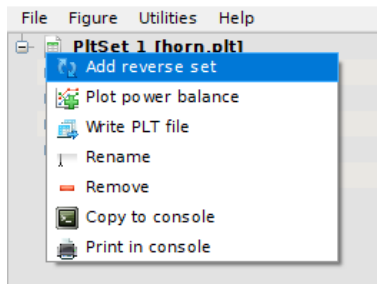

Figure 6.41: Add a reverse set of the PLT results
- Re-organize the PLT results in the data tree: Add a reverse set of the results (Figure 6.41).